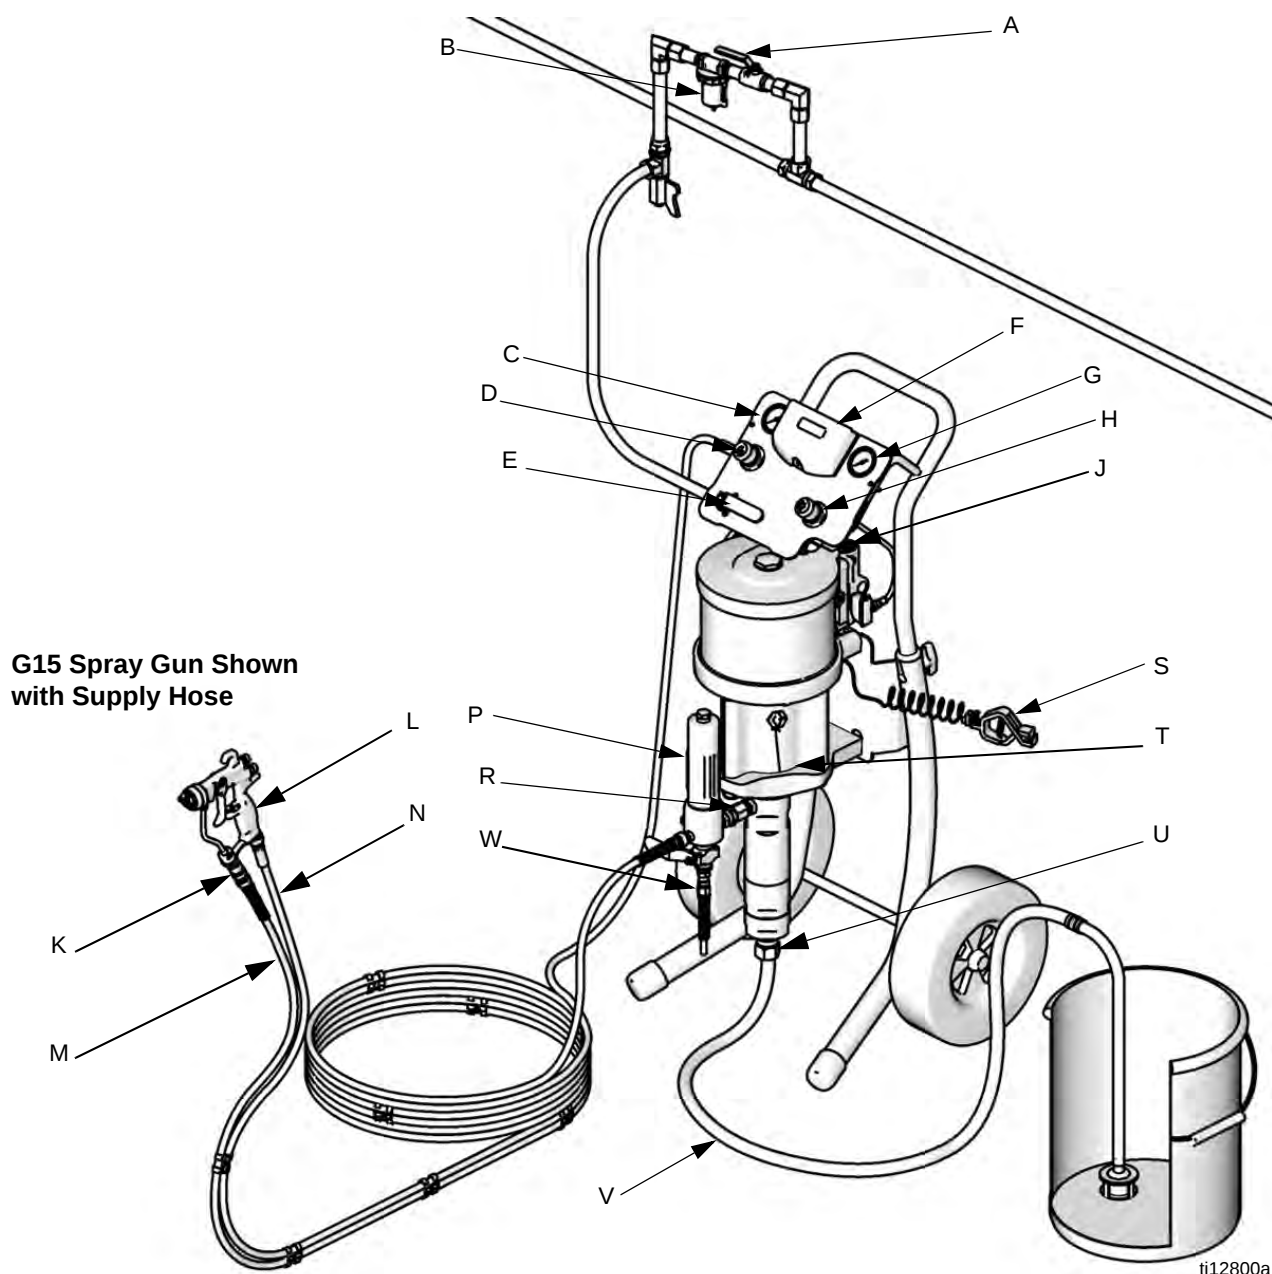

FIG. 1. Typical Installation (Your package may not include all items shown.)
FIG. 1 is only a guide for selecting and installing system components and accessories. Contact your Graco distributor for assistance in designing a system to suit your particular needs.
See FIG. 1. **Components vary by package ordered.**
Install the following accessories in the order shown in FIG. 1, using adapters as necessary.
1. See FIG. 1. Attach end of blue fluid hose (M) to pump outlet (R) or filter (P) outlet.
2. Attach one end of the air hose (N) to gun air regulator (D).
3. Attach remaining end of the air hose (N) to air inlet at base of gun (L).
4. Attach gun swivel (K) to gun fluid inlet.
5. Attach other end of blue fluid hose (M) to gun swivel (K).
2. See FIG. 1. Turn off the bleed-type master air valve (D).
1. See FIG. 1. Lock gun trigger. Remove tip guard and spray tip from gun (L). Refer to gun manual.
2. Close gun air regulator (D) and pump air regulator (H) by turning knobs counterclockwise reducing pressure to zero. Close bleed-type air valve (E). Also verify that all drain valves are closed.
3. Connect air line to bleed type air valve (D).
6. Hold metal part of gun (L) firmly to side of grounded metal pail, unlock trigger, and hold trigger open.
8. Open bleed-type air valve (E). Slowly turn clockwise pump air regulator (H) increasing pressure until pump starts.